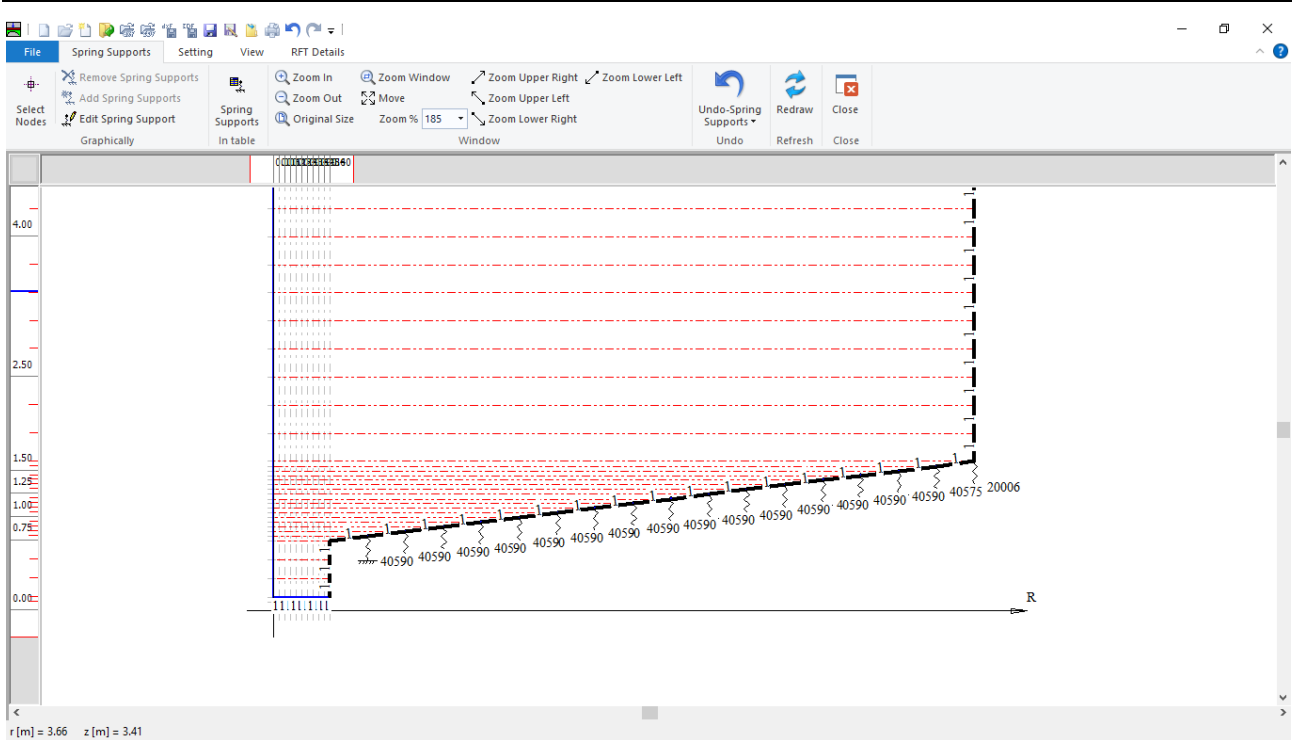

Figure 7.23 "Spring Supports" window after defining the springs
- Choose "Save " command from "File" menu in Figure 7.23 to save the data of the springs
- Choose "Close" command from "File" menu in Figure 7.23 to close the "Spring Supports" window and return to the main window